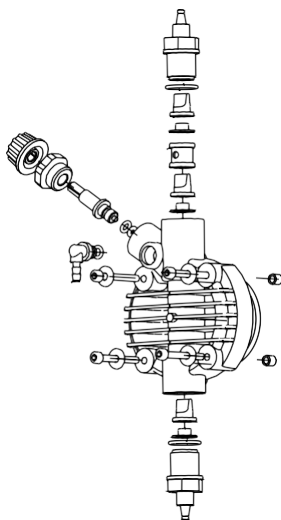

Fig. 10
- the additive concentration in the pipe work; a reduction of this concentration could be caused by the wearing of the valves, in which case they need to be replaced (Fig. 10) or by the clogging of the filter which then has to be cleaned as in point 3 here below.
This operation can also be done with the pump disconnected from the plant by turning the pump upside-down for 15 to 30 seconds and without connecting the hose to the nipples; if impossible, dismount and remount the pump head (Fig. 10) using the four mounting screws.
As the system is quite robust there are no apparent mechanical problems. Occasionally there might be a loss of liquid from the nipple because the tube nut has loosened, or more simply the discharge tubing has broken. Very rarely there may be losses caused by the breakage of the membrane, or by the membrane seals in which case they have to be replaced by disassembling the four screws of the pump head (fig. 10), when re-mounting the pump head ensure that the screws are replaced properly, along with "O" ring. After repair, the metering pump will need to be cleaned of additive residues which can damage the pump casing.
- a. Dismount the suction and discharge valves, clean them and replace, see position (fig. 10). Should the valves be swollen, check valves material against our chemical resistance compatibility chart and fit correct valves. Standard valves are Viton. Upon request ball check valve, can be supplied.